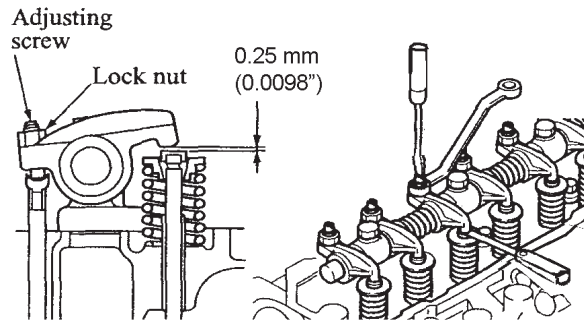

Figure 7: Valve Adjustment
5. To adjust valve clearance, loosen the lock nut on the adjustment screw. Insert a feeler gauge between the rocker arm and the valve stem cap. Adjust, while measuring the clearance, until the feeler gauge slides with a slight drag. Tighten the lock nut and recheck the clearance (Figure 7).